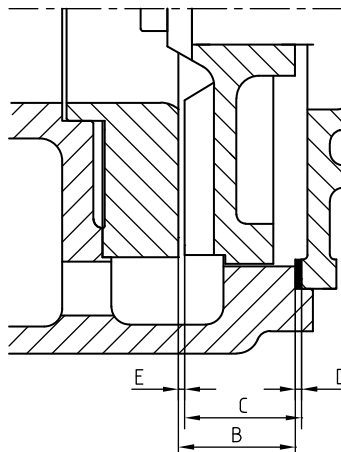

Figure 13: Clearance between impeller and wear plate.
- 3 Measure the distance B between wear plate and pump casing, see figure 13.
- 4 Measure the distance C between impeller and intermediate cover, see figure 13.